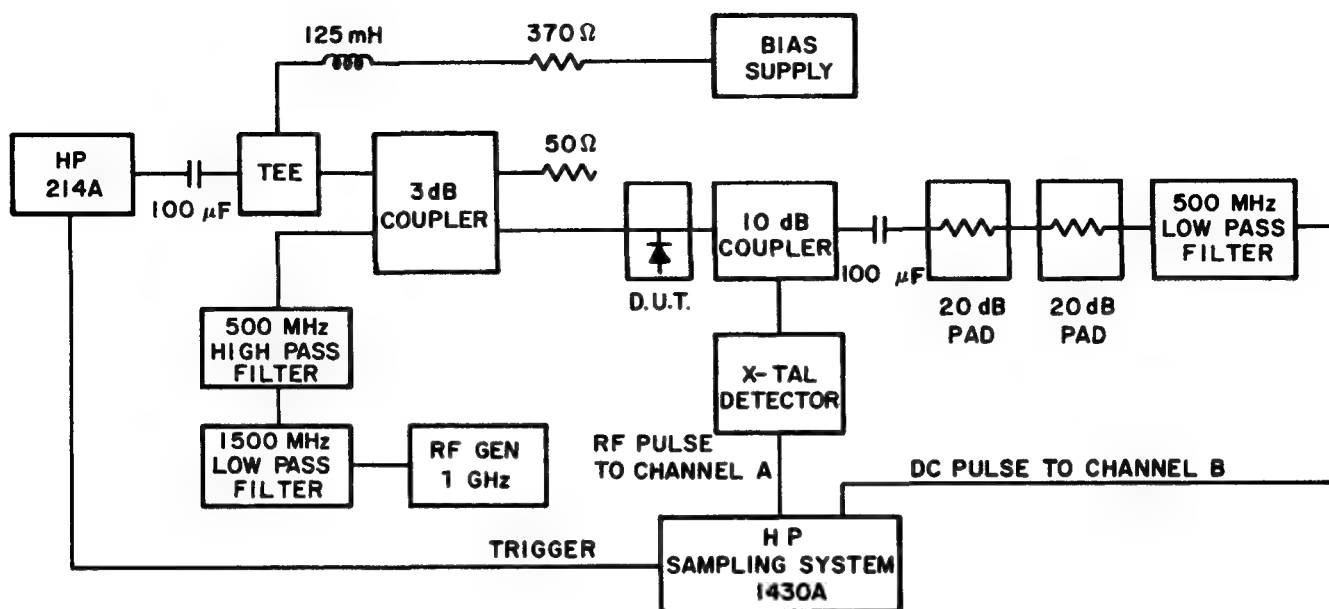

FIGURE 1 TEST CIRCUIT FOR SWITCHING TIME
6. The speed with which the diodes will switch RF power depends on the shape of the waveform and the bias conditions. The typical data section shows switching times measured using the circuit of Figure 1; t_{fr} is from forward to reverse bias, and t_{rf} is from reverse to forward bias. The MA-47082 is measured between 50 mA forward and 50V reverse; the MA-47084 is measured at 150 mA and 100V; all others from 100V to +100 mA or vice versa.